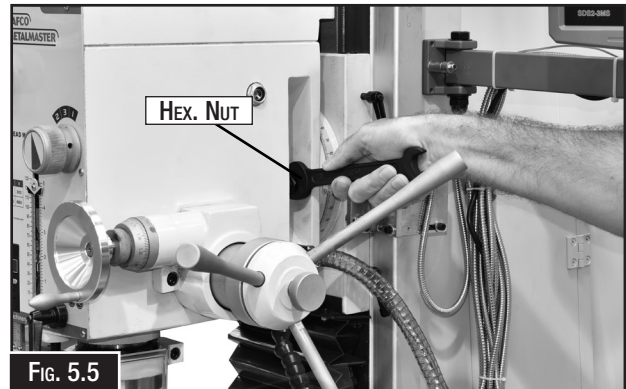
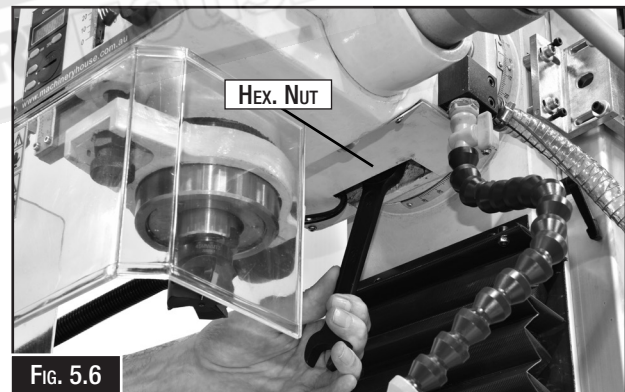

FIG. 5.5
FIG. 5.6
2. Loosen the three locking hex nuts a 1/4 to 1/2 a turn. There is one on either side of the head (Fig. 5.5) and one under the bottom of the head (see Fig. 5.6).